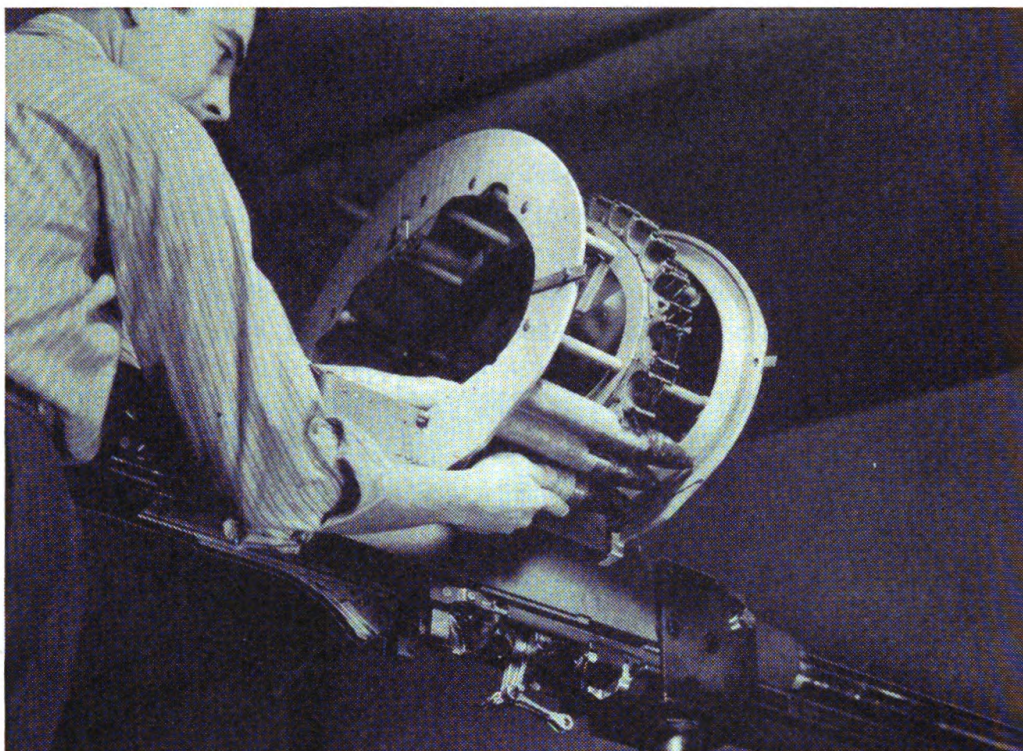

FIGURE 4.—Loading 30-round magazine.
c. Press one round of ammunition into the spring clip nearest the right side of the feed box (fig. 4). Make sure that the groove in the rotating band of this and of every other projectile engages the mating projection of the spring clip.